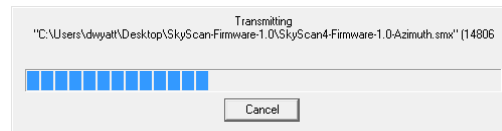
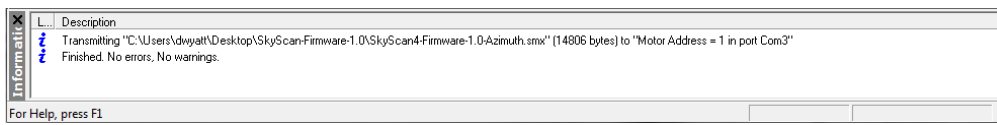

Figure 23: SMI Upload Progress
Figure 24: SMI Upload Finished
- 18) Now click the **OK** button. This will upload the firmware file to the SmartMotor. During this process you should see a progress dialog like the one shown in Figure 23. When the upload finishes, you should see a “Finished. No Errors, No warnings.” message in the **Information** window at the bottom of SMI as shown in Figure 24.